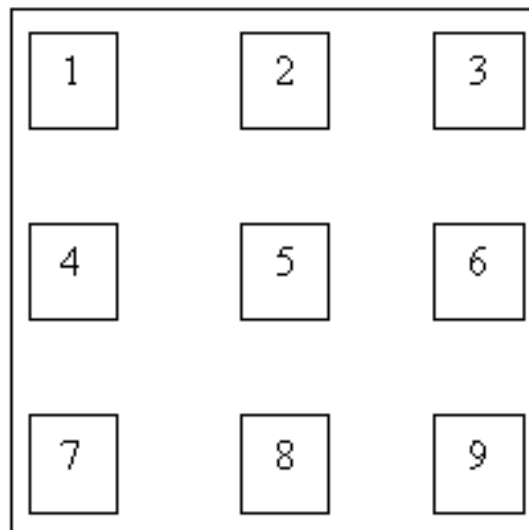

Figure 1: Reading Locations on Sample
4.3.7 Repeat 4.3.2 through 4.3.6 for a total of nine (9) readings. Readings are to be taken following Figure 1.